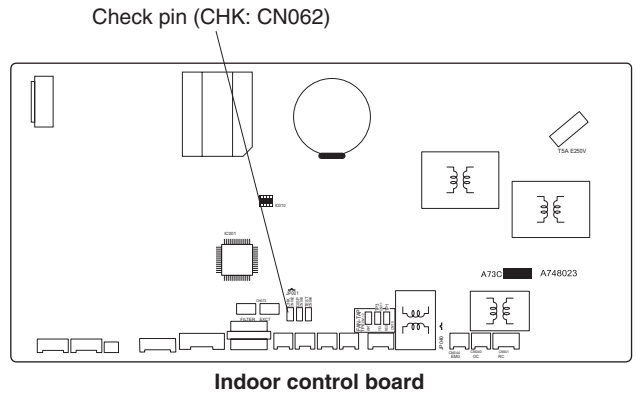

Fig. 3-19
- (1) Connect power to the power terminal board (R, S terminals) inside the electrical component box.
- (2) Remove the eyelet cap and through the opening, slowly pour about 500 cc of water into the drain pan to check drainage.
- (3) Short the check pin (CHK) on the indoor control board and operate the drain pump. Check the water flow through the transparent drain port and see if there is any leakage. (Fig. 3-19)